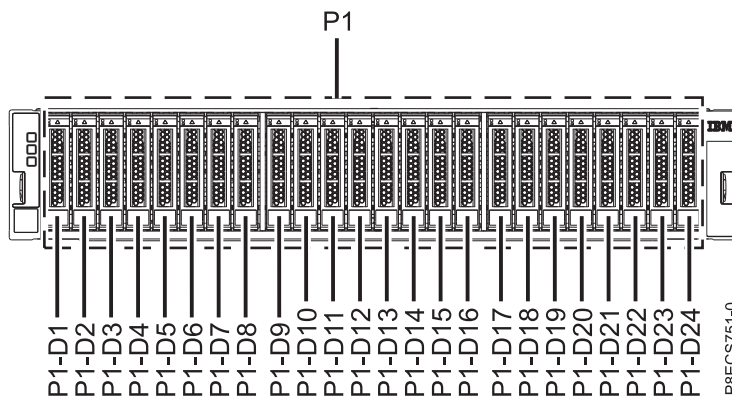
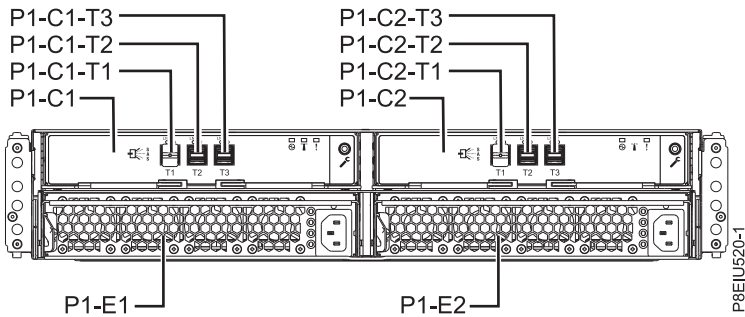
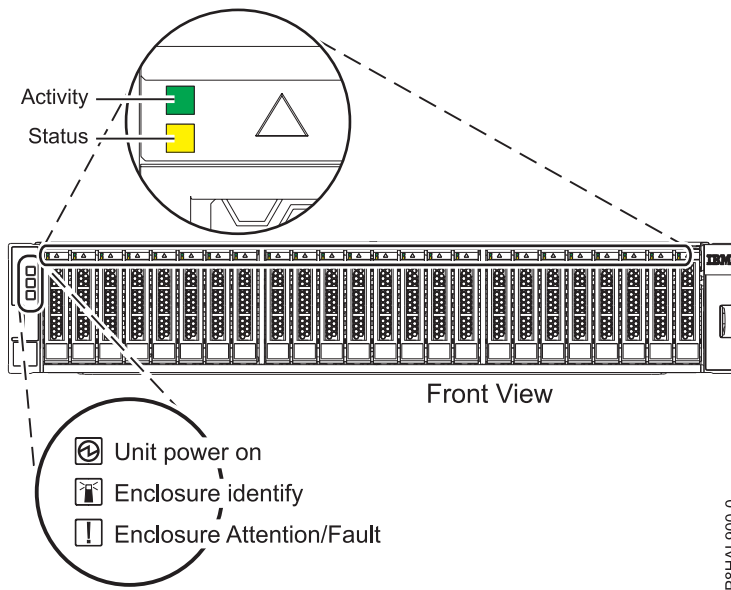

Figure 43. Front view of the ESLS storage enclosure showing the drive locations
Figure 44. Rear view of the storage enclosure
Figure 45. Front view of the storage enclosure showing the service indicators
3. Identify the part and the enclosure that you want to service. The disk drive and SSD slots are located in the front of the enclosure. Figure 43 shows the front of the ESLS storage enclosure, Figure 44 on page 40 shows the rear view of the storage enclosure, and Figure 45 on page 40 shows the locations of the service indicators for the enclosure.